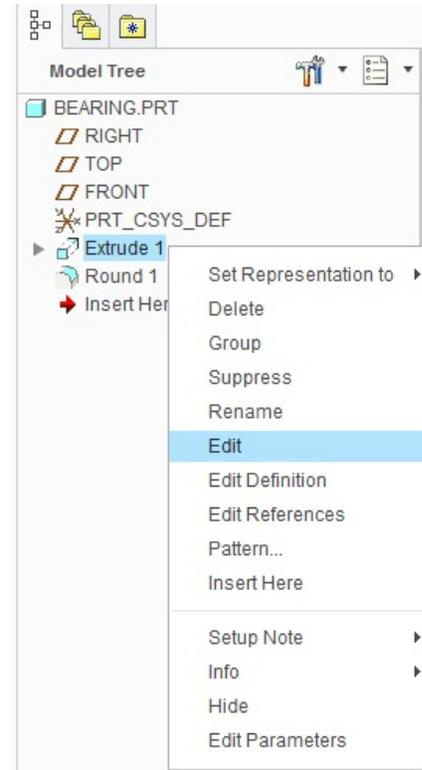
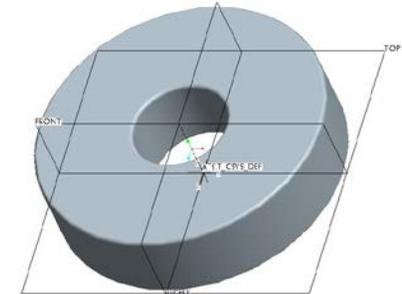

Fig. 2.21.
Fig. 2.22.
17. Modify the dimensions using Edit feature.	<p>Select the extrusion feature in the graphics window or from the model tree → Right Mouse → Edit → (May need to hold down the right mouse button to for it to take effect.)</p> <p>Refer to Fig. 2.21.</p> <p>Select the 1.0 dimension → 0.6 → ENTER</p> <p>The model automatically changes to the new dimensions.</p> <p>Refer to Fig. 2.22.</p>